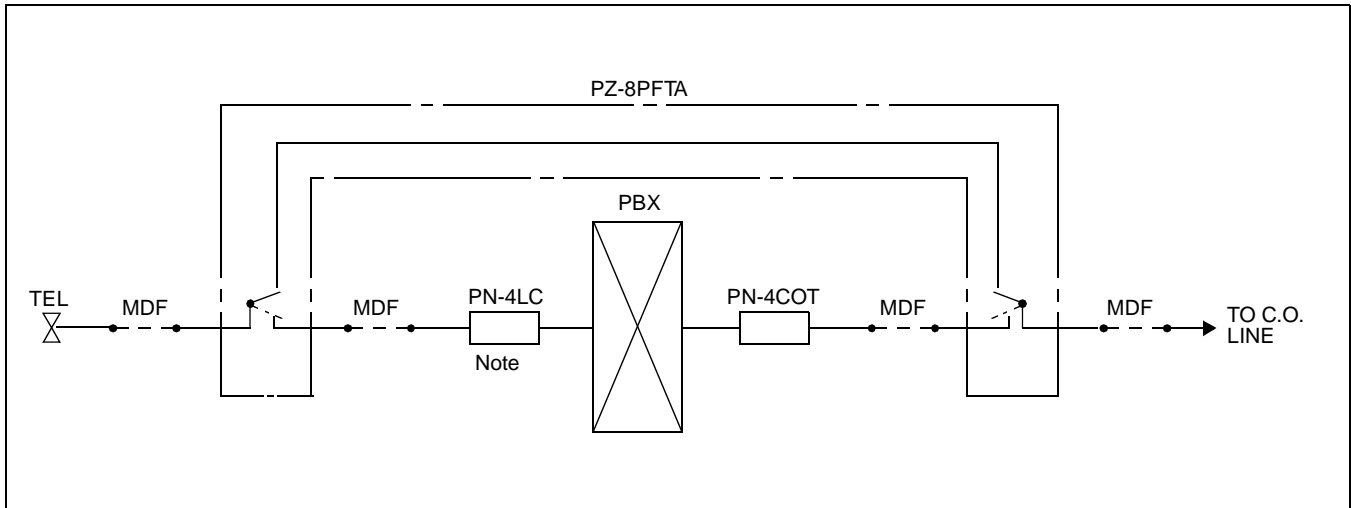

Figure 007-41 Outline of the PFT (PZ-8PFTA) Connection
- An outline of a PFT (PZ-8PFTA) connection is shown in Figure 007-41.